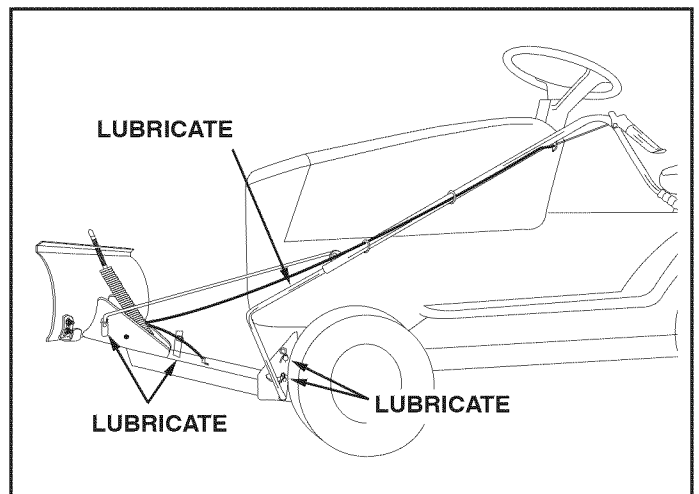

FIGURE 27
- Lubricate all pivot points to help maintain proper operation of blade. Apply a light coating of oil to the straight upper portion of the lift handle rod. See figure 27.
- Lubricate all pivot points and all points shown in figure 27, page 15 in the maintenance section.